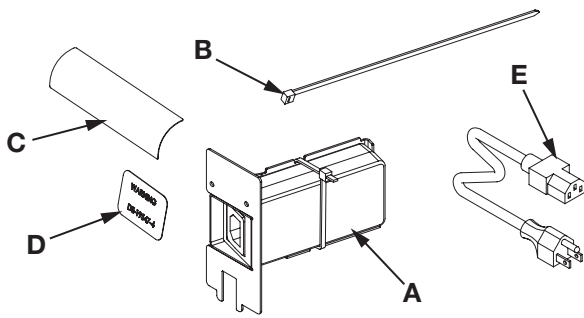

Figure 1
3. Verify kit contents. See Figure 1.
- A. Voltage Assembly Kit (1), 630AK0XX
- B. Cable Tie (1), EW000028
- C. Disconnect Power 7 Languages Decal (1), CM000240
- D. Medical Inlet Decal (1), DE-19547-4
- E. Power Cord (1), 250V/3A, AW-19521